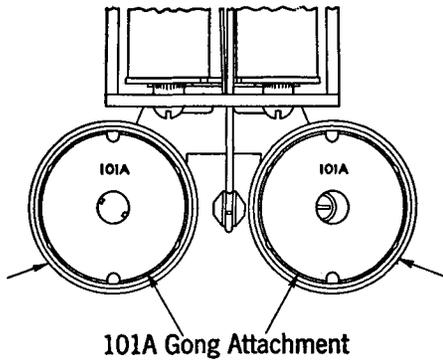

Fig. 4—101A Gong Attachment
3.05 A 41A gong should be assembled with the 101A gong attachment shell (with the cover off) next to the gong then the flat washer provided with the attachment and the lock washer and screw from the gong. The screw should be turned down until it is possible to rotate the gong with some friction. The gongs should then be adjusted for clapper clearance as in 3.01. When the proper clapper clearance is obtained, the 101A gong attachment shell should be rotated to a position so that the triangular openings in the side of the shell are in line with the clapper. The gong mounting screw should then be set up tight. The gong attachment should not touch the sides of the gong after the screw is tightened. After these adjustments are made the cover should be placed on the shell of the attachment and the tabs on the shell be bent over the cover to hold the latter in place, as shown in Fig. 4.